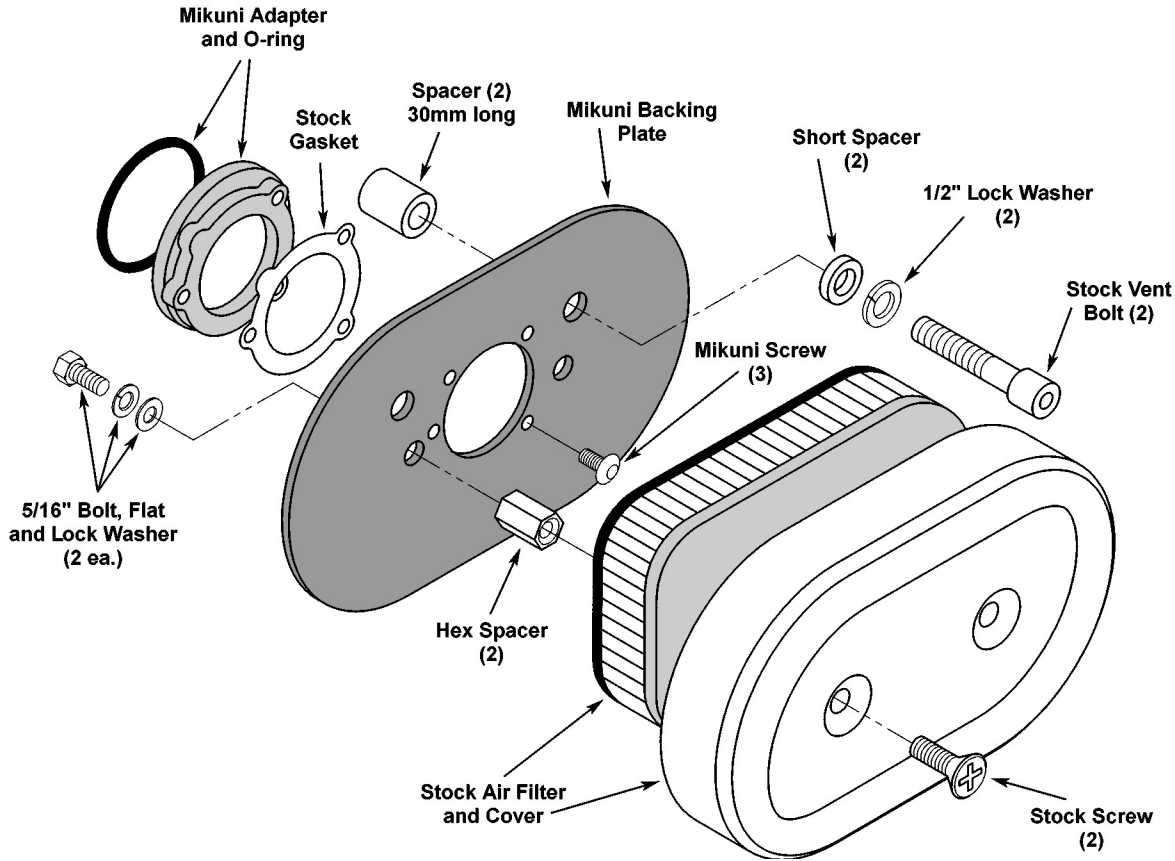

Figure 7: Air Cleaner Ass'y
4. Attach the backing plate assembly to the engine using the stock vent bolt together with the furnished lock washers, short and long spacers (see Figure 7).